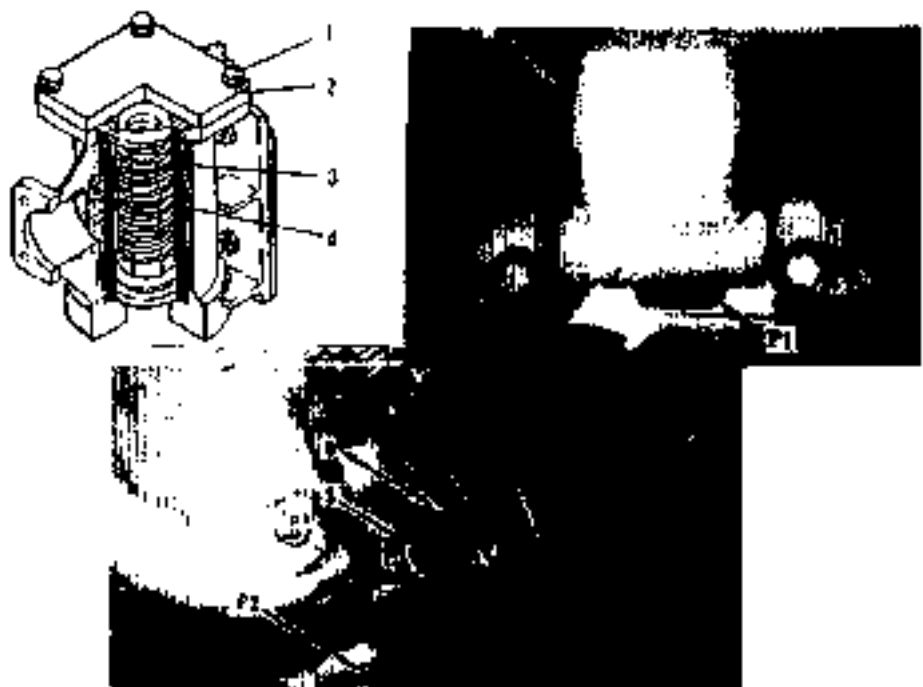

Fig. 5-14
3. Replace oil of steering case including transmission, torque converter and bevel gear case and clean oil filter as shown in Fig. 5-14.